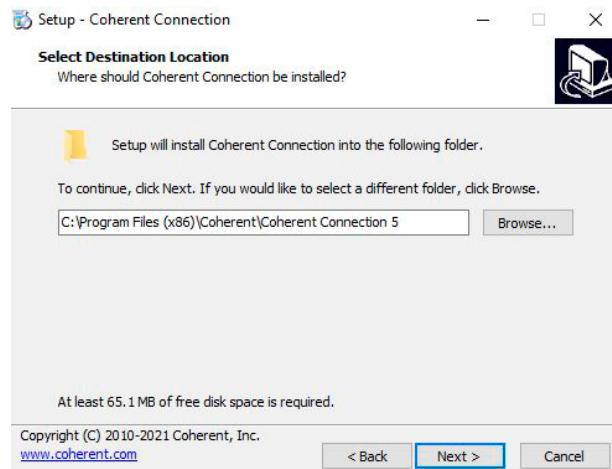

Figure 4-5. Select Directory to Install Software
9. The window shown in Figure 4-5 is an example of what is displayed. Accept the selection, or browse to select the directory on the workstation where you want to install the software, and click Next.